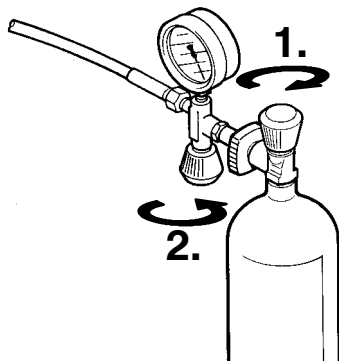

Fig. 10 Removing air bottle
- Upon reaching final bottle pressure **close bottle valve first** (1, Fig. 10), **then filling valve** by returning handle to closed position (2).